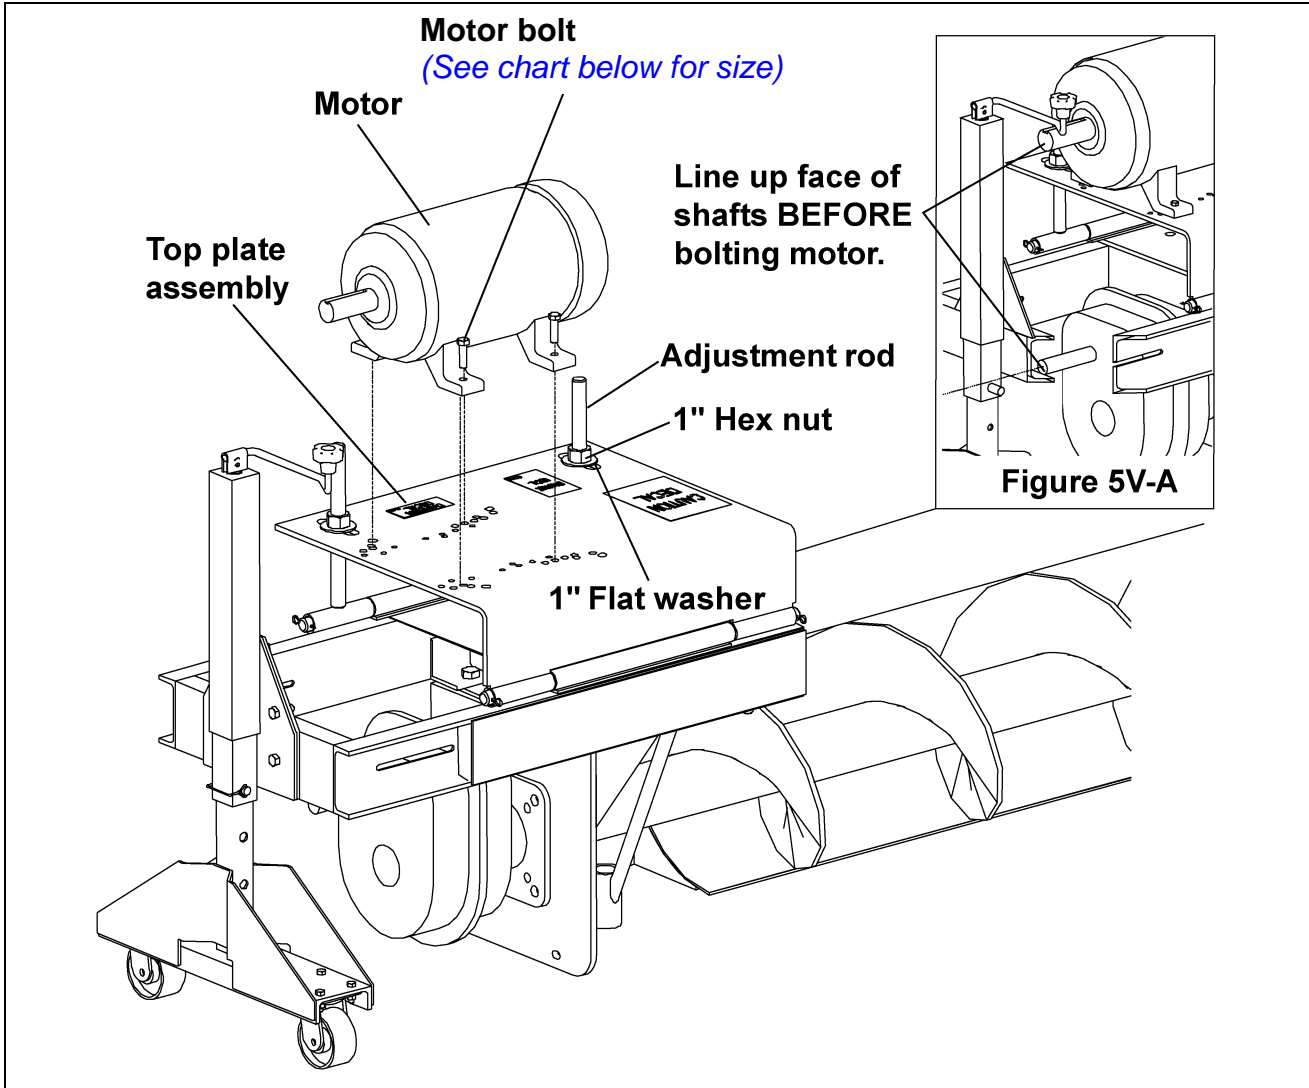

Figure 5V
- A. Level the top plate assembly by adjusting the 1" nuts and washers on the adjustment rods. (See Figure 5V.)
- B. Line up the end face of the shafts as closely as possible before bolting motor to mounting plate. (See Figure 5V-A.)